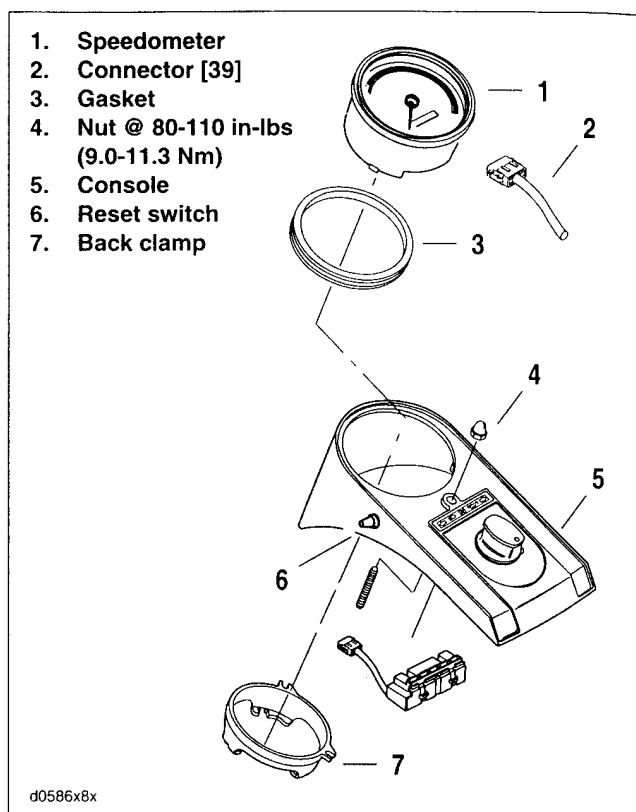
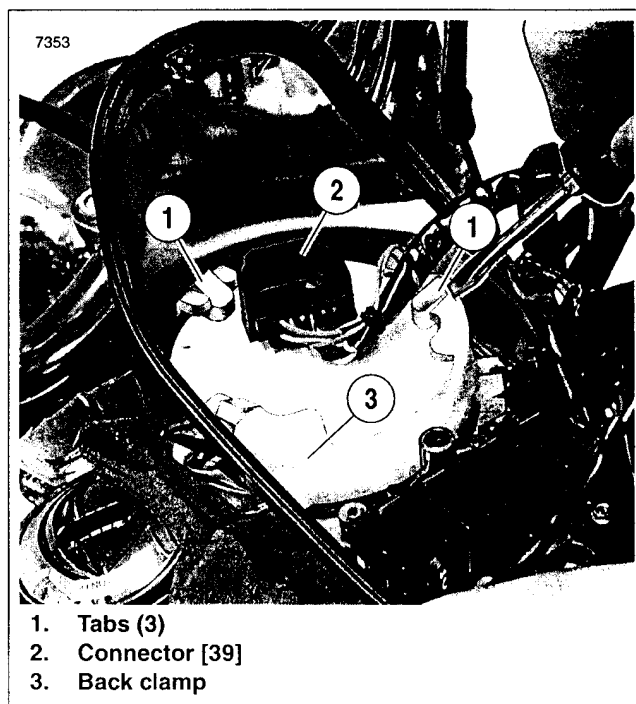

Figure 8-53. Speedometer: FXDWG
Figure 8-54. FXDWG Connector [39]
1. See Figure 8-53. Remove nut (4) and lift console (5) from fuel tank.
3. Depress connector tab and disconnect 12-place harness connector (2) [39] from speedometer under console.
4. Unscrew the rubber boot from the odometer reset switch (6) on the left side of the console.
6. See Figure 8-54. Pry between three tabs and speedometer with a screwdriver to raise and release back clamp from speedometer. Remove back clamp from speedometer.
7. See Figure 8-53. Remove speedometer from console.
8. Remove gasket (3) from speedometer.
1. See Figure 8-53. Install gasket (3) to speedometer.
2. Position speedometer in console (5).
3. See Figure 8-54. Press on back clamp (3) until three tabs engage on back of speedometer.
4. See Figure 8-53. Insert odometer reset switch (6) through hole in console and install rubber boot.
5. Connect 12-place connector (2) [39] to speedometer under console.
6. Remove shop rags and install console to fuel tank with nut (4). Tighten to 80-100 **in-lbs** (9.0-11.3 Nm).